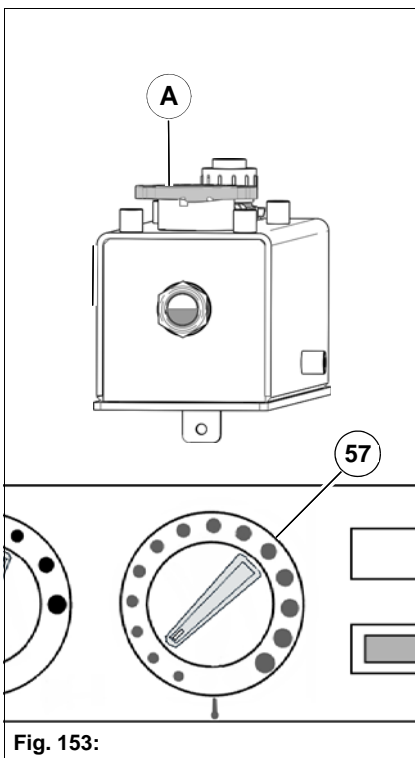

Fig. 153:
4. Cover the filler cap **Fig. 153-A** with a cloth.